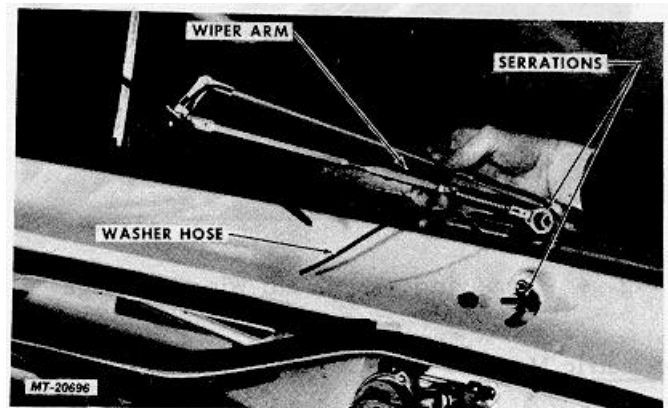

Fig. 2 Removing Wiper Arms
2. Remove wiper blades and arms (Fig. 2). Do not use articulating rod end clip.